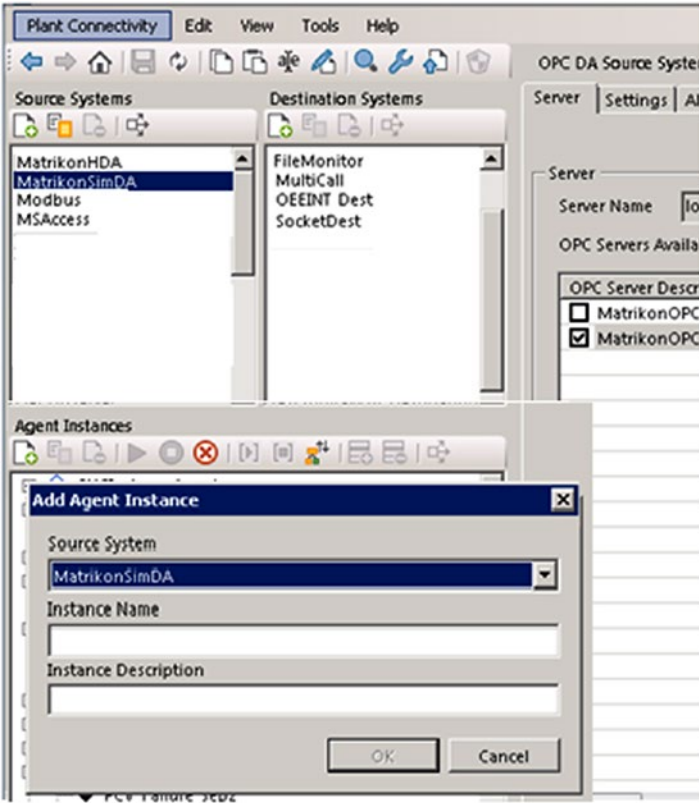

Figure 7-136. Agent creation in PCo
8. Create a new agent. See Figure 7-136.